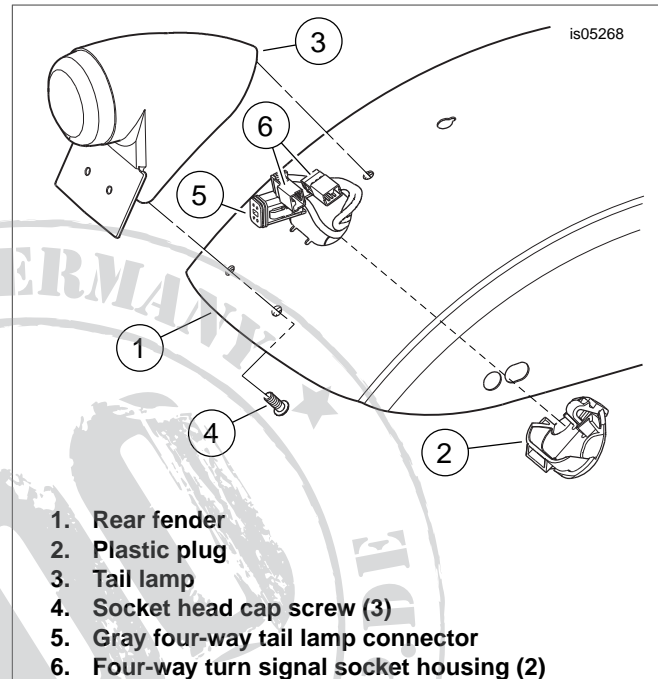

Figure 4. Rear Lighting Connections
1. See Figure 4. Remove the plastic plug (2) from the tail lamp access hole underneath the rear fender (1).
- See Figure 4. Remove the plastic plug (2) from the tail lamp access hole underneath the rear fender (1).
2. Carefully remove the turn signal wires and connectors from the inside of the tail lamp housing (3). Remove the turn signal wires from the clips underneath the fender. Separate the four-way turn signal socket housings from the rear lighting harness pin housings (6).